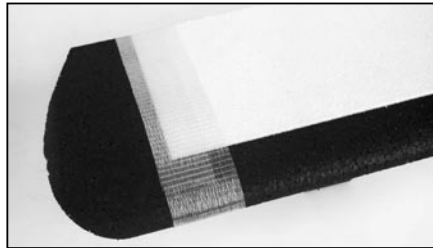

fig. 7
- ▼ 4. Fit the shaped wing tips (slant facing down) onto the ends of the wings using Bullet tape (see fig. 7).